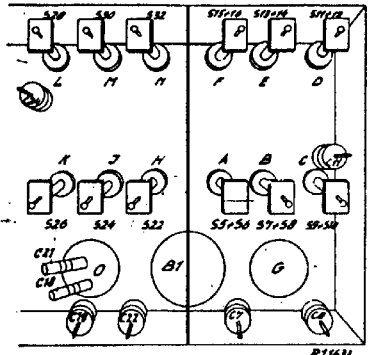

Fig. 9
I.F. and oscillator circuits (fig.9)